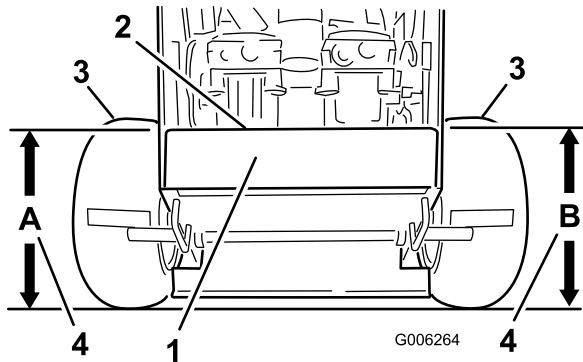

Figure 56
- Measure engine deck height at location **A** (Figure 56).
- Measure engine deck height at location **B** (Figure 56).